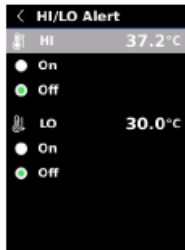

Fig. 17
2. Use the $\wedge$ and $\vee$ buttons to select the alarm value to be adjusted or to Enable (On) or Disable (Off) the applicable temperature alerts (Fig. 17).